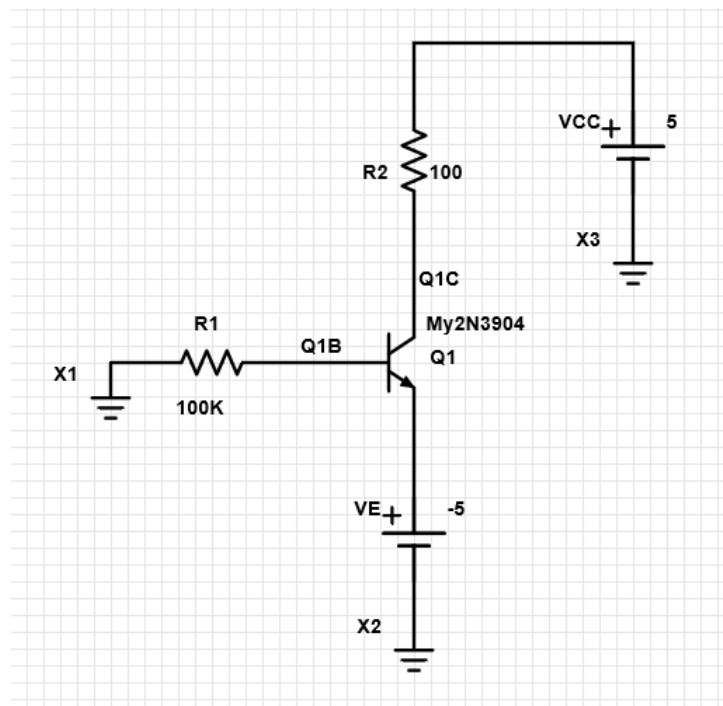

Fig. 1 The schematic diagram for the DC characterization of an NPN-BJT 2N3904
- 1.1 In Avenue to Learn, Lab 1: DC Characterization and Biasing Circuits, follow the link for PartSim circuit simulator and Video 1.1 to Video 1.3 to prepare the circuit diagram as shown in Fig. 1 to characterize an NPN-BJT 2N3904. Because AD2 only measures voltages, we use R1 and R2 in Fig. 1 as the current sensors, and obtain $I_B = -V(Q1B)/R1$ and $I_C = [VCC - V(Q1C)]/R2$.